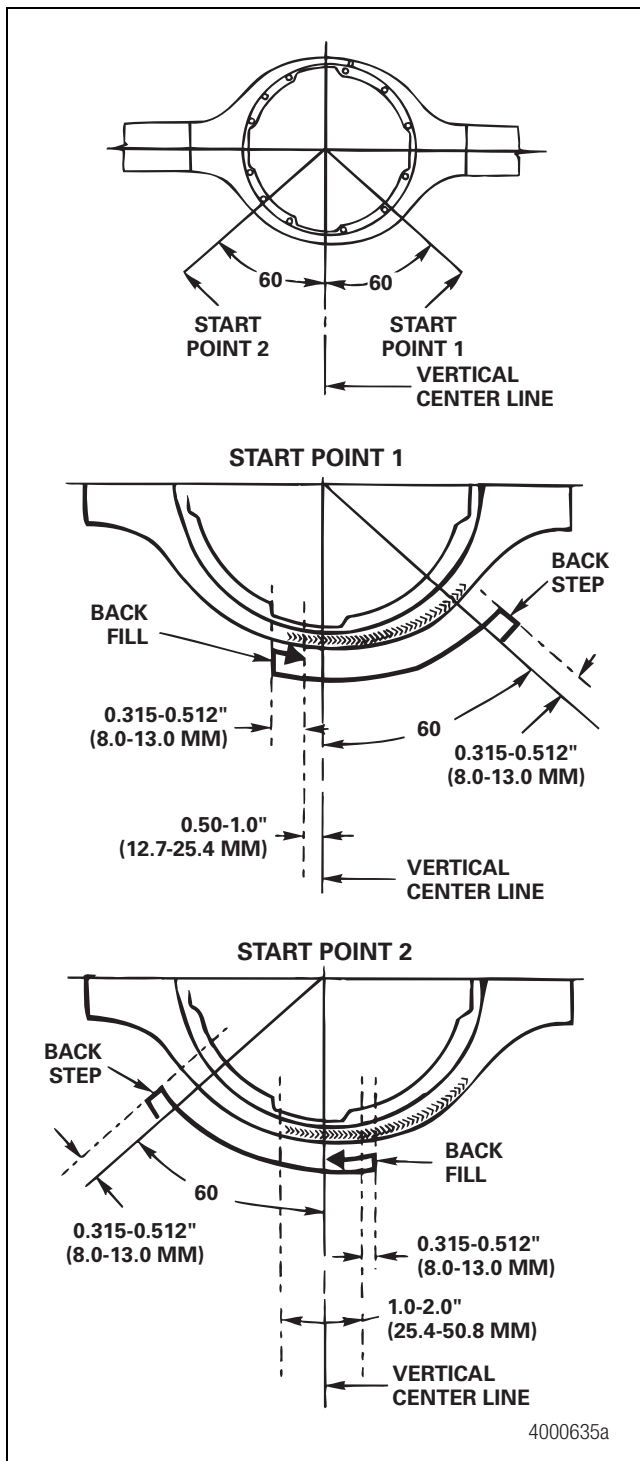

Figure 3.14
2. Beginning at start point 1, 60 degrees away from the vertical center line, back step 0.315-0.512-inch (8-13 mm) to prevent a cold start. Figure 3.14.
3. Lay a full single-flare bevel weld in a single pass, if possible, ending 0.50-1.00-inch (12.7-25.4 mm) past the vertical center line. Figure 3.14. Single flare-bevel weld size is 0.315-0.500-inch (8.0-12.7 mm).
4. Back fill the end of the weld 0.315-0.512-inch (8-13 mm) to eliminate craters. Figure 3.14.
6. Beginning at start point 2, opposite side of first weld, 60 degrees away from the vertical center line, repeat Steps 2-5. When you repeat Step 3, overlap the end of the first weld by one to two-inches (25.4-50.8 mm) before back filling the weld. Figure 3.14.